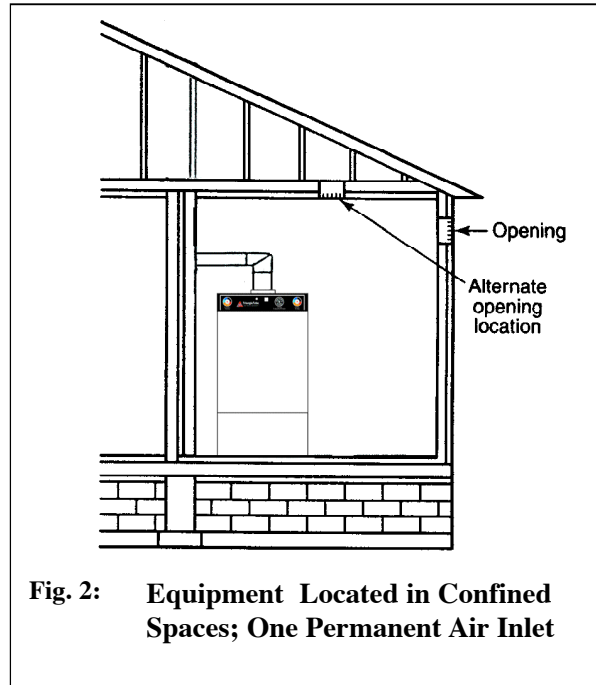

Fig. 2: Equipment Located in Confined Spaces; One Permanent Air Inlet
- Not less than the sum of the areas of all vent connectors in the space. See Fig. 2.